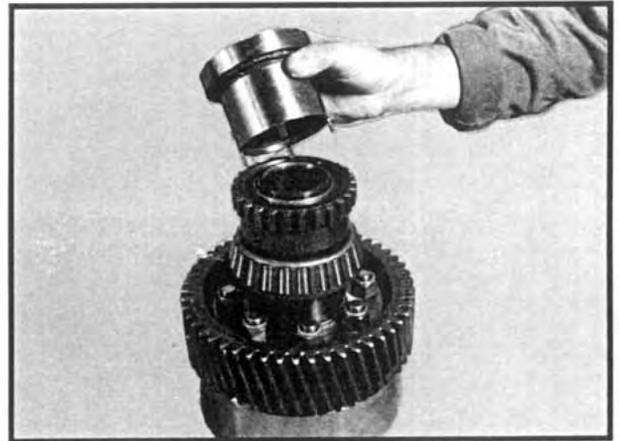

Fig 31
- Remove the clutch gear retaining locknut from the front differential case half with Fabco tool 866-0368 or equivalent. See Figure 31. Slide off the clutch gear.